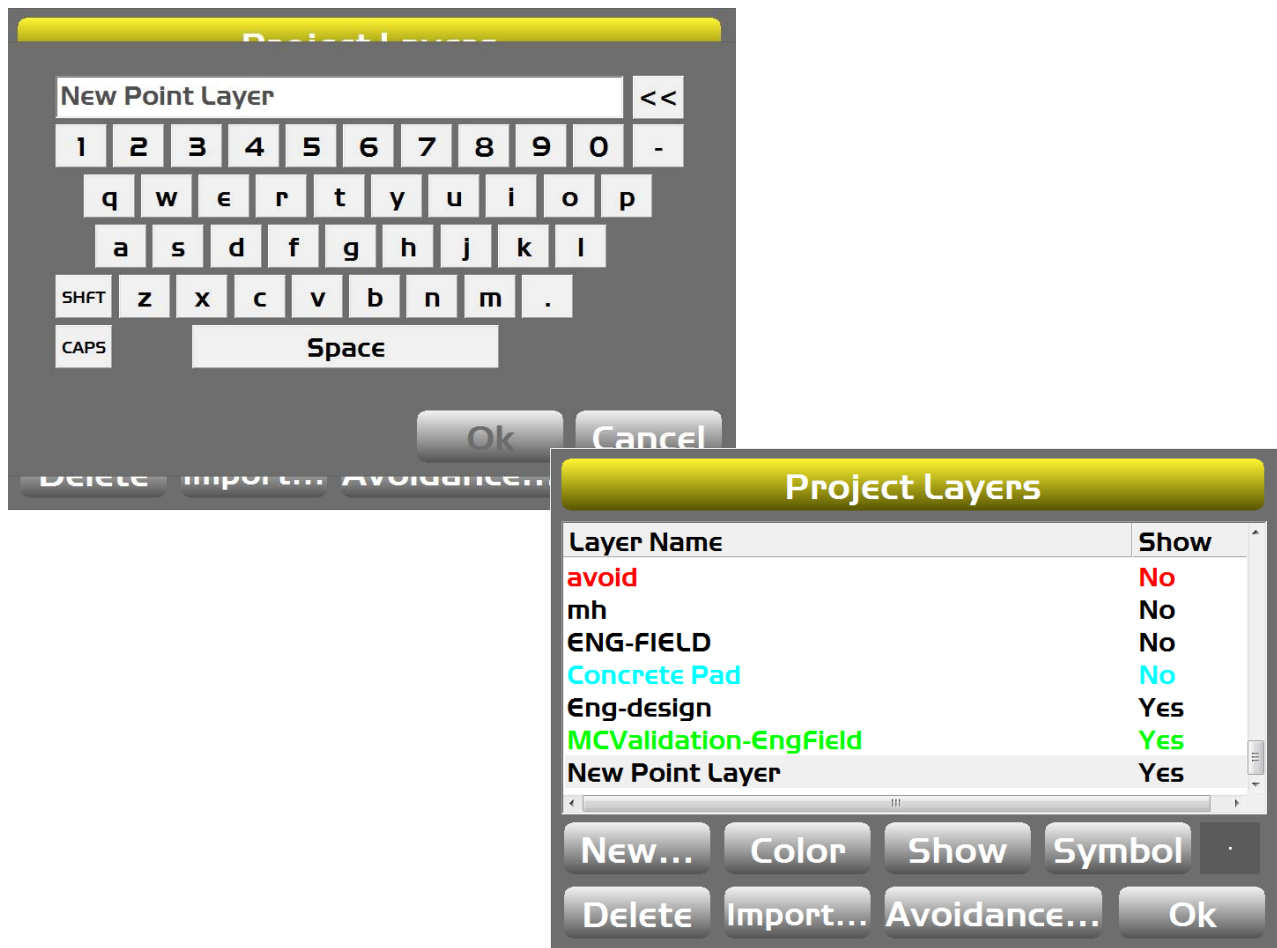

Figure 82: Create and Name a New Point
2. Tap **New**, enter a name, and tap **OK**. The new point file appears in the **Project Layers** screen (Figure 82 on page 63).